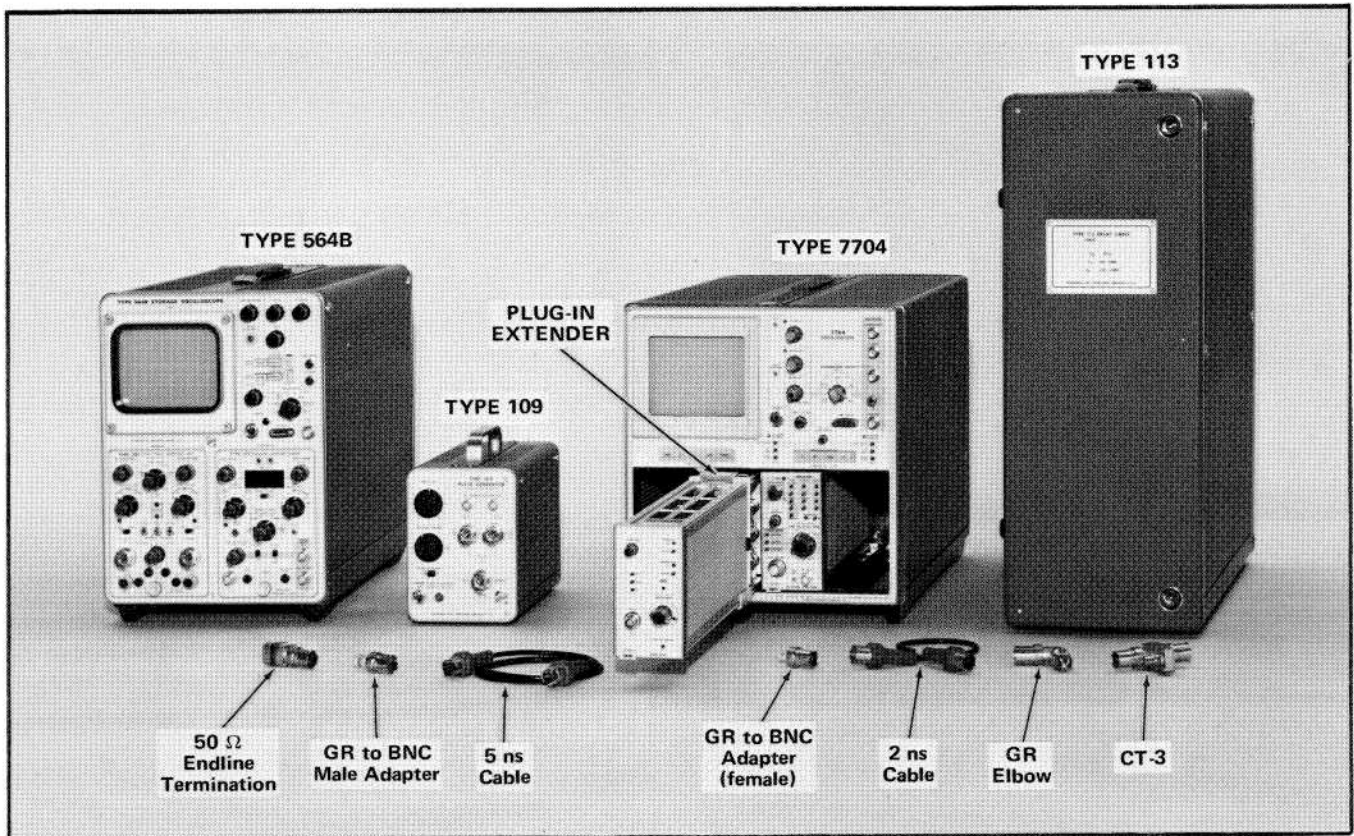

Fig. 5-4. Test equipment required for steps 18 and 20.
a. Test equipment required is shown in Fig. 5-4.